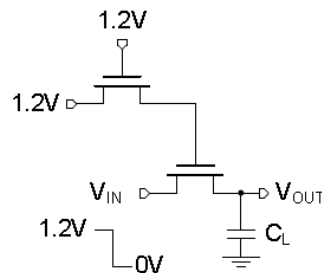

Figure 6.
- b) Find the final value when the input is high, $V_{IN}=1.2V$. After the output reaches its final value, a 1.2V to 0 step is applied to the input, V_{IN} . Determine the energy consumed in the transistors, $E_{1 \rightarrow 0}$, from Fig.6 during the transition. The load capacitor C_L is 10fF. Ignore any other parasitic capacitors except C_L . [4 pts]